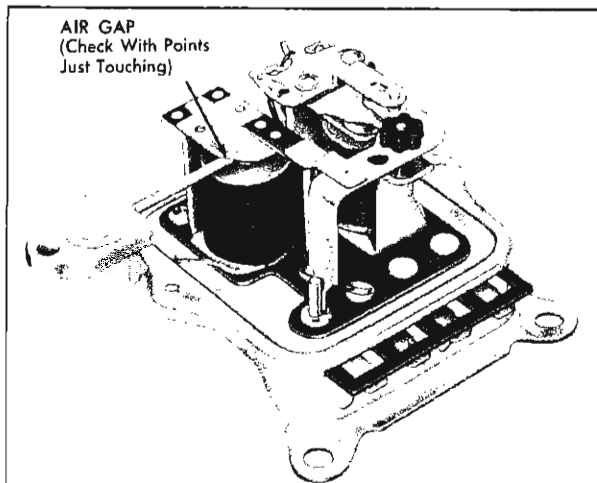

Fig. 39—Checking Field Relay Air Gap
2. **Air Gap:** Check the air gap with the points just touching (fig. 39). The air gap normally need not be adjusted. If the point opening and closing voltages are within specifications, the relay will operate satisfactorily even though the air gap may not be exactly according to specifications. If adjust-